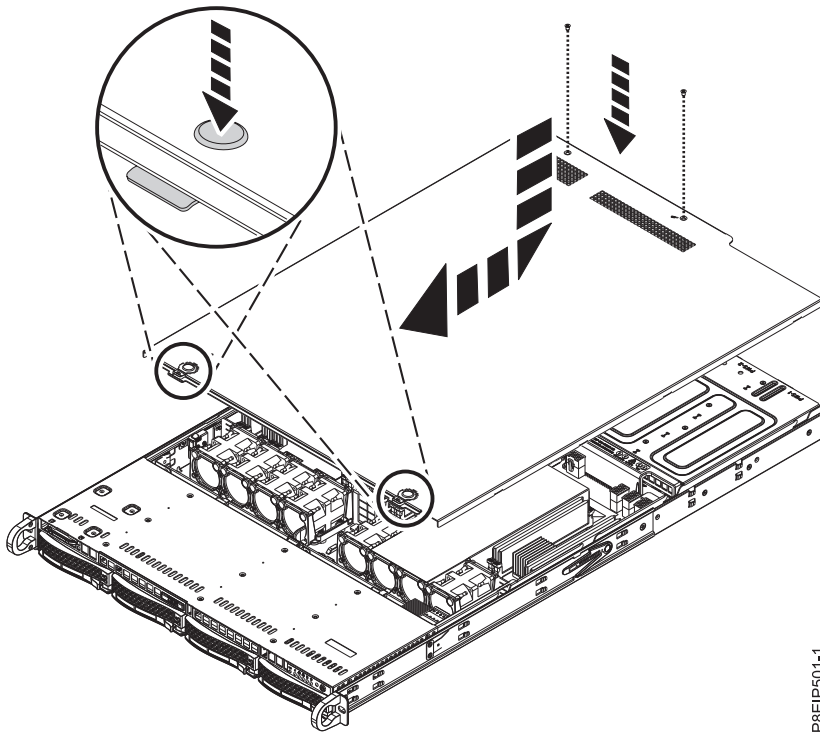

Figure 83. Replacing and securing the cover
2. Slide the cover forwards until it latches into place as shown in Figure 83.